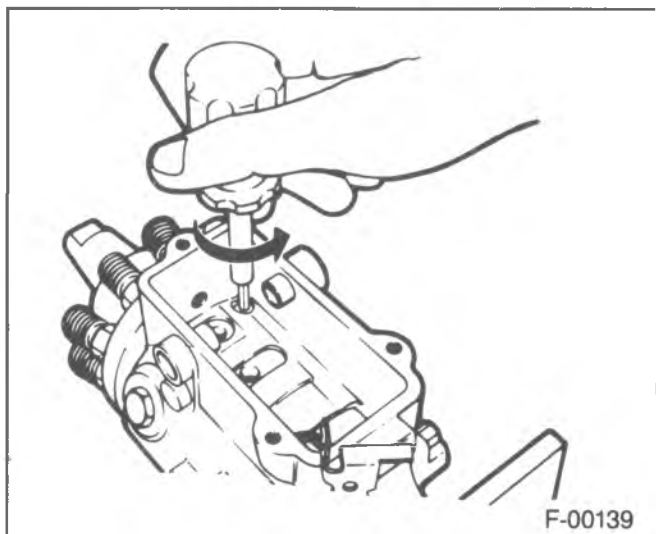

Figure 28—Vent Wire Assembly
4. Housing vent wire screw assembly (figure 28).
9. Housing vent wire screw assembly (figure 28).